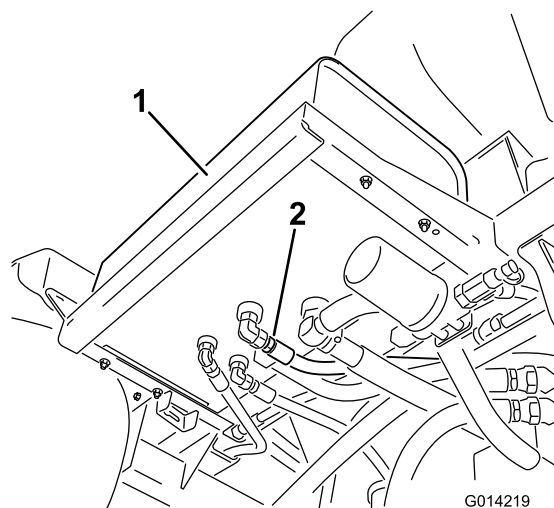

Figure 143
2. Clean the area around a hydraulic-hose fitting on the bottom of the hydraulic-fluid tank (Figure 143).
4. Remove the hose fitting from the tank, allowing the fluid to drain into the pan (Figure 143).